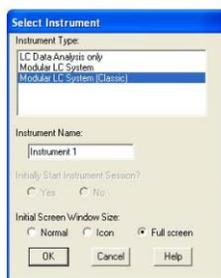

Figure 13 Select Modular Systems (Classic).
- 4 For **Instrument Type**, select **Modular Systems (Classic)**, then click **OK**. See Figure 13.